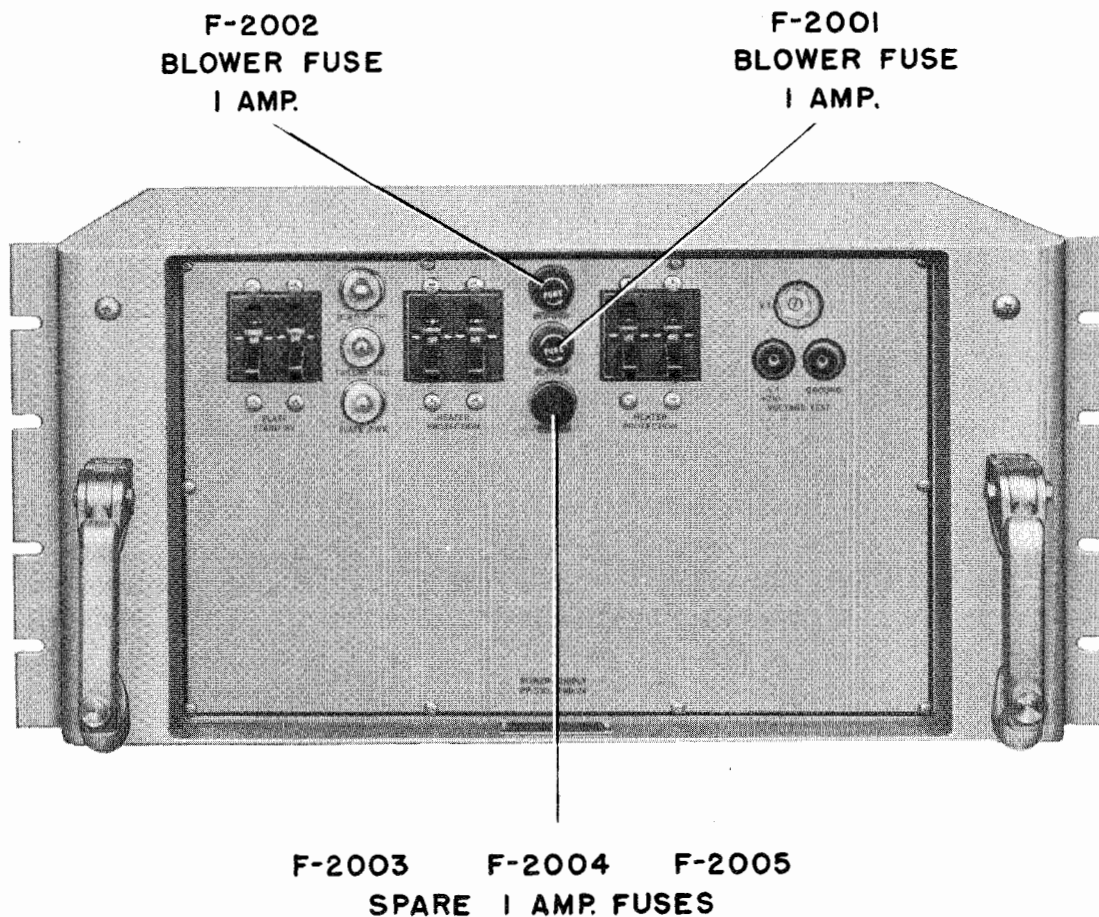

Figure 7-3. Fuse Locations, Power Supply PP-590/FRR-24
(1) FUSES. (See Figures 7-3, 7-4, 7-5 and 7-6).